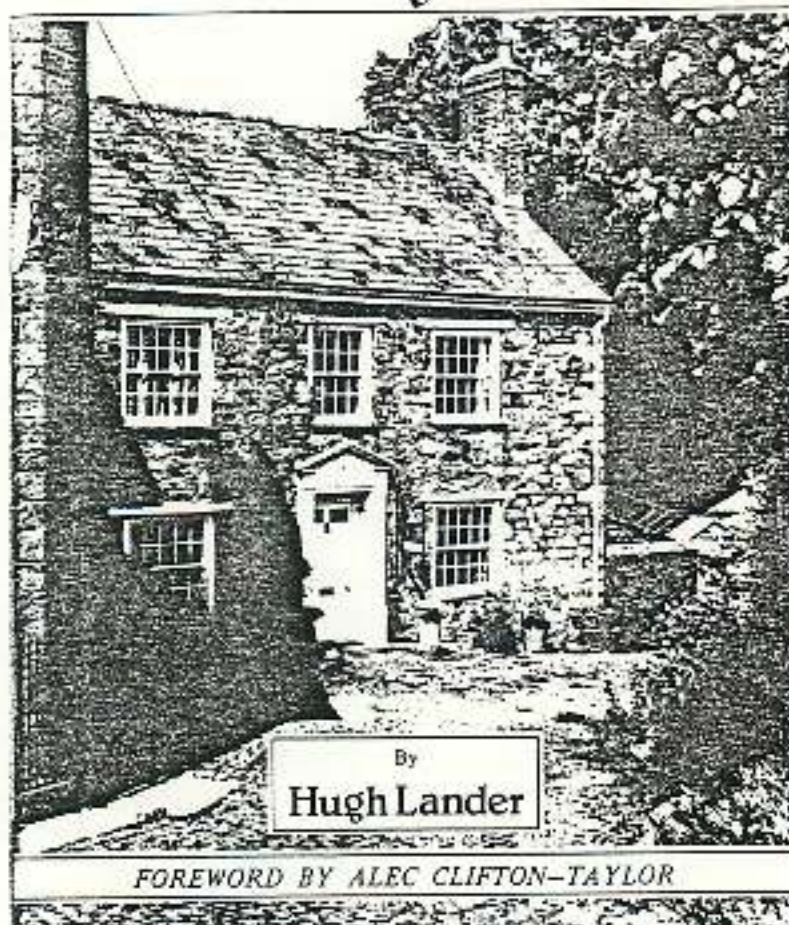

Fig 46 If you start like this....
3. Don't bring a new uniformity into your roof lines when improving or extending a building. Fig 46
2. Do retain varied roof lines. Fig 46